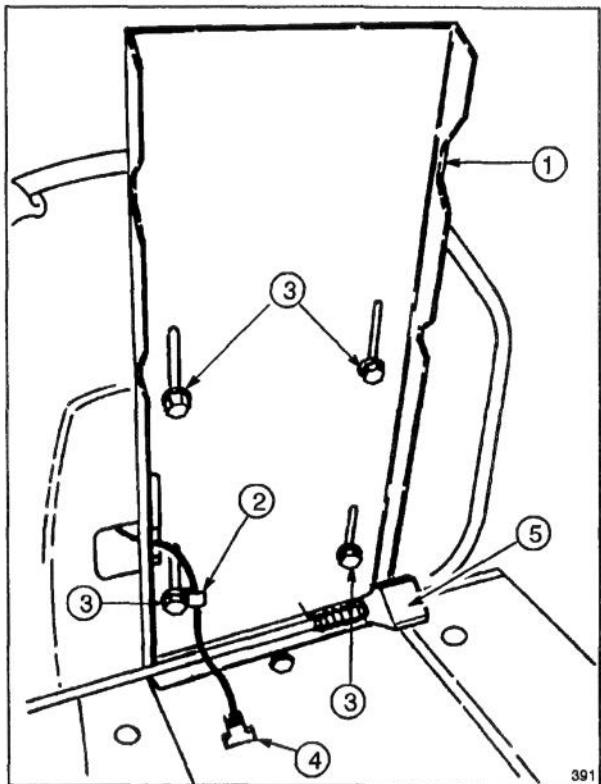

Figure 1
1. Position seat onto seat base, inserting seat switch cable thru slot and aligning mounting holes (Fig. 1).
2. Slide wire clamp over seat switch wire (Fig. 1).
3. Using left front mounting slot in seat base, loosely secure wire clamp and seat to seat base with a capscrew and lockwasher (Fig. 1).
4. Mount seat to seat base with (3) remaining capscrews and lockwashers.